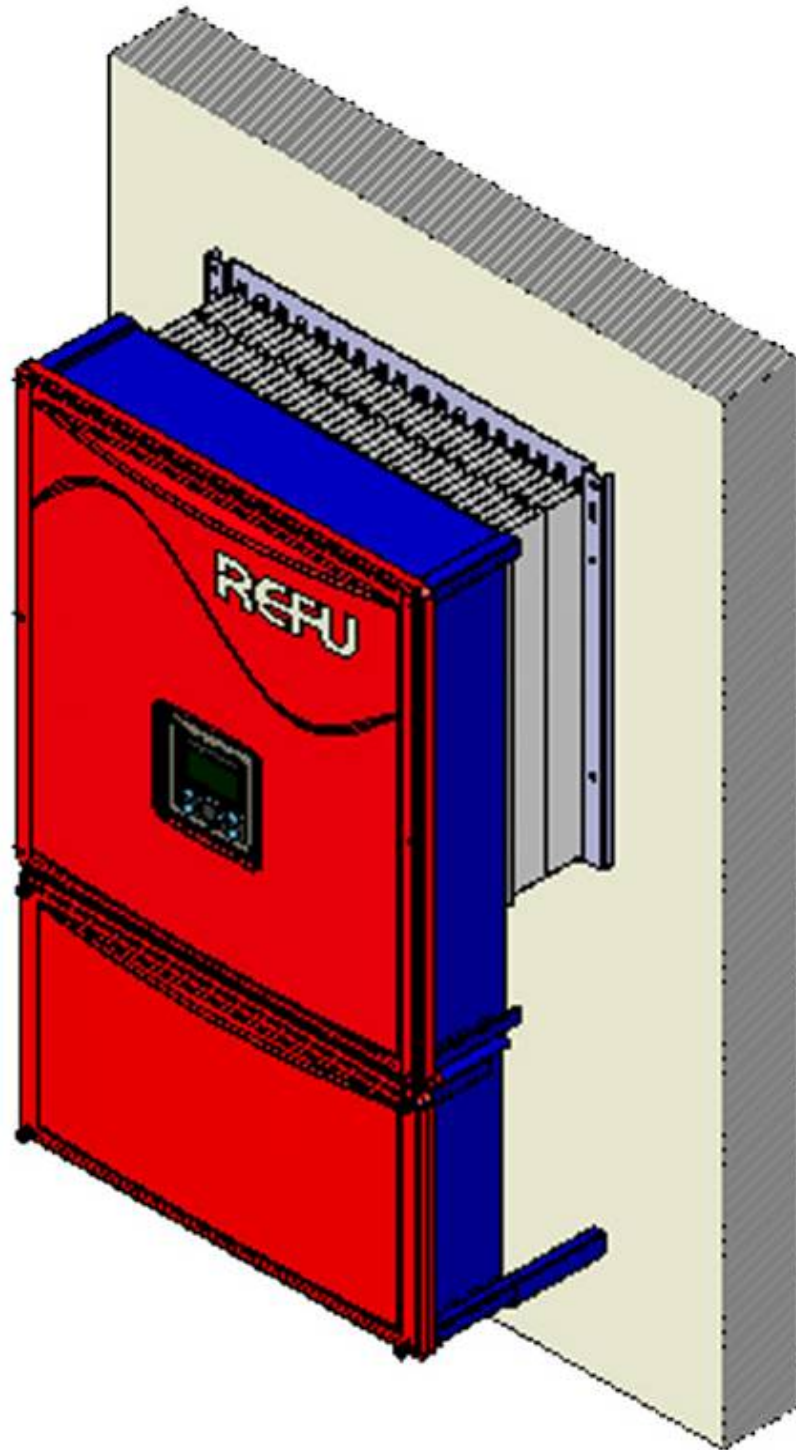

Fig. 7 Installation of inverter
- Attach the inverter with the heat sink to the mounting plate in a way, that the mounting hooks of the mounting plate insert in to the holes at the upper end of the heat sink and that the lower end of the heat sink rests on the support angel on the mounting plate lower end (see Fig. 7).